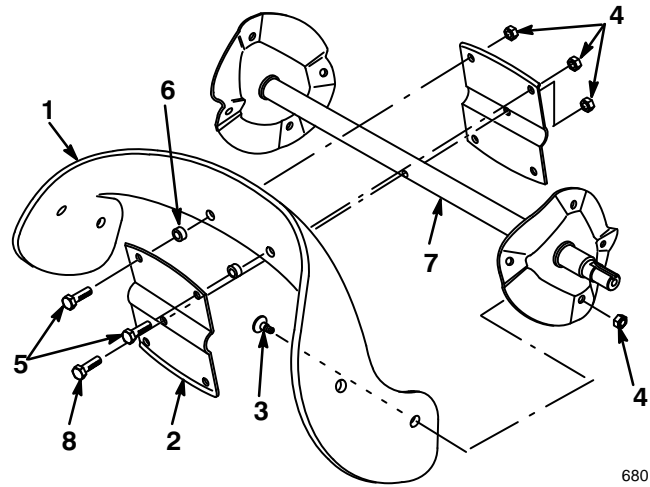

Figure 18
1. Remove the four torx screws and four locknuts that secure the outer edges of the rotor blade to the rotor shaft assembly (Fig. 18).
2. Remove the two hex-head capscrews, spacers, and locknuts that secure the center of the blade to the steel plates (Fig. 18).
3. Loosen the hex-head screw that secures the rotor halves to the auger shaft assembly (Fig. 18).
4. Slide the blade out from between the rotor halves (Fig. 18).
3. Secure the blade to the rotor halves with two hex-head capscrews, two spacers, and two locknuts, positioning the bolt heads on the thick side of the blade (Fig. 18).
4. Curve the rotor blade, and secure it with the remaining four torx screws and locknuts, positioning the screw heads on the thick side of the blade (Figs. 18 and 19).